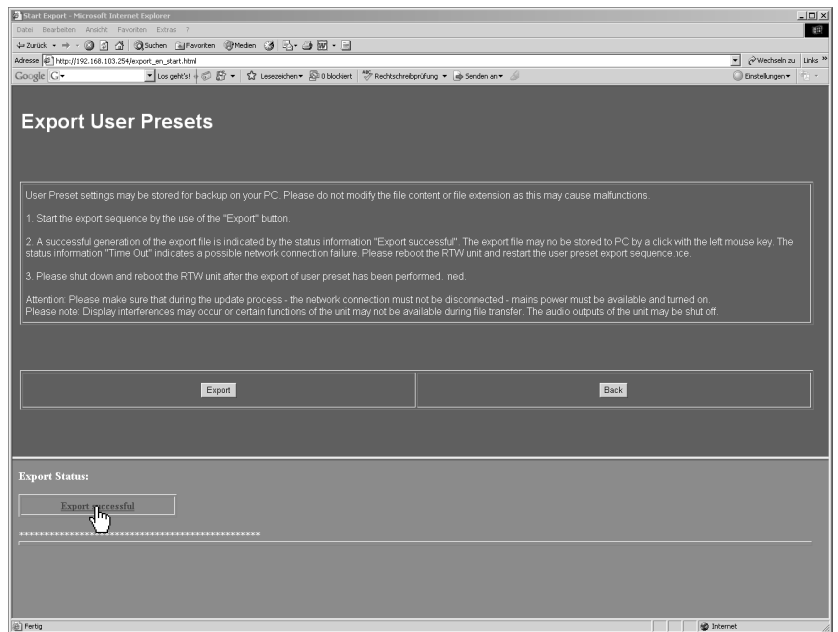

Fig. 8-13: The export file has been generated and can be saved
5. When the Export Status turns to the blue labelled “Export successful” (see Fig. 8-13) the export file can be saved. Please click **Export successful**.